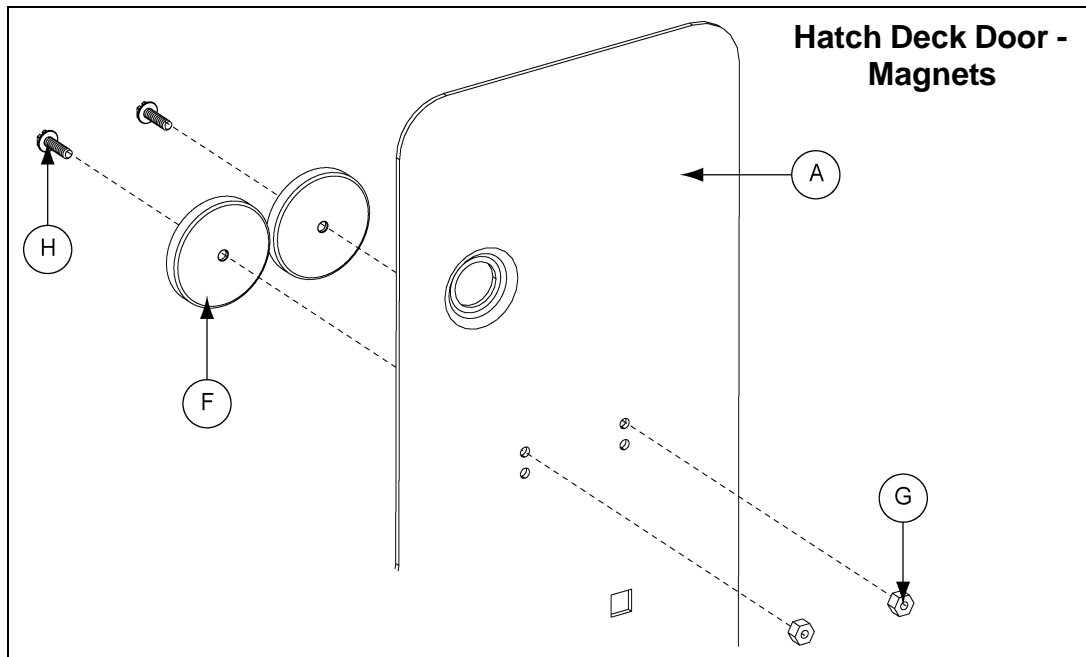

Figure 9C
4. Slide two (2) magnets (16-0092) onto each MS #6 x 3/4" FHS flat head screw (S-7166). Position the magnet so the screw head is countersunk into the magnet. *(See Figure 9C.)*